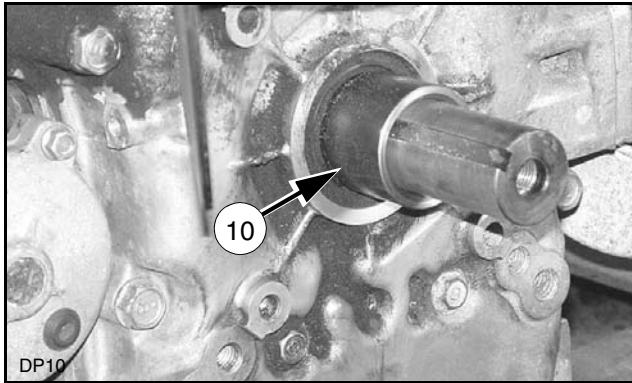

Figure 14. Clutch Spacer Installed
1. Install clutch spacer (10) over engine shaft with the chamfer side towards the engine. See Figure 14.
10. Clutch spacer (see Figure 14)